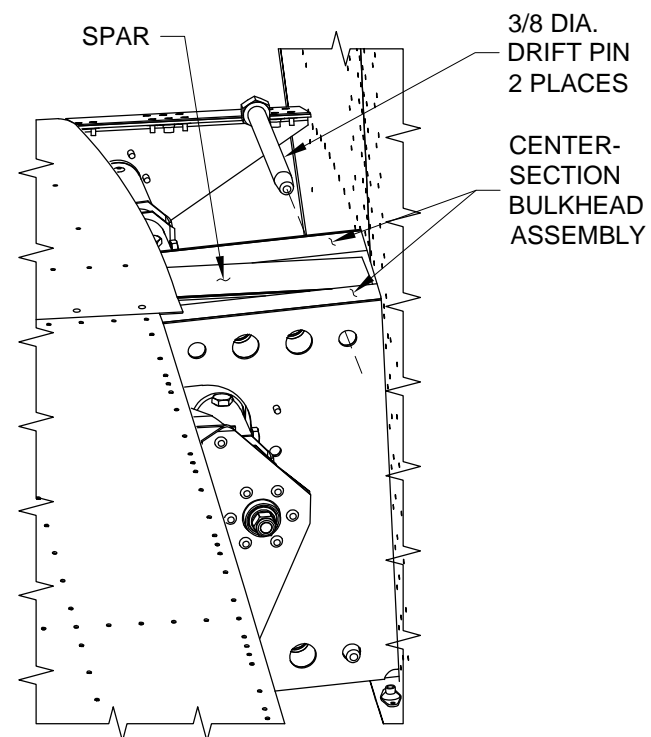

FIGURE 1: ATTACH WING
Step 1: Slide the wing spar (left shown) into the fuselage and temporarily pin as shown in Figure 1.